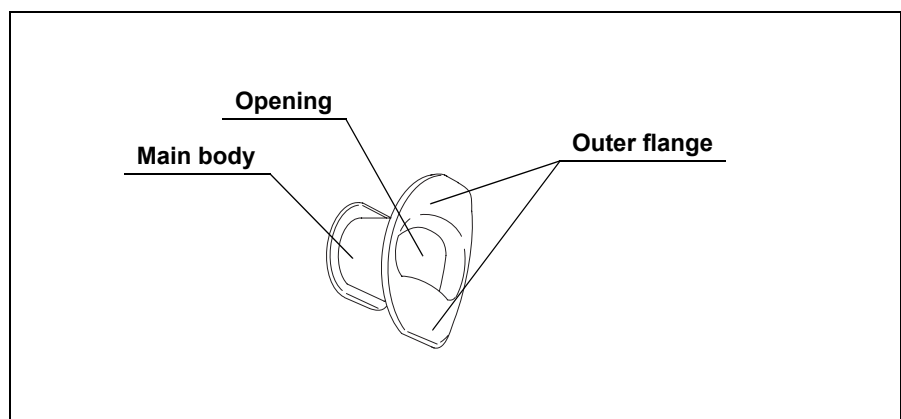

Figure 3.14
1. Confirm that the mouthpiece is free from cracks, deformation or discoloration (see Figure 3.14).
- Using your fingers, check for excessive scratching or other irregularities on all surfaces of the mouthpiece (see Figure 3.14).